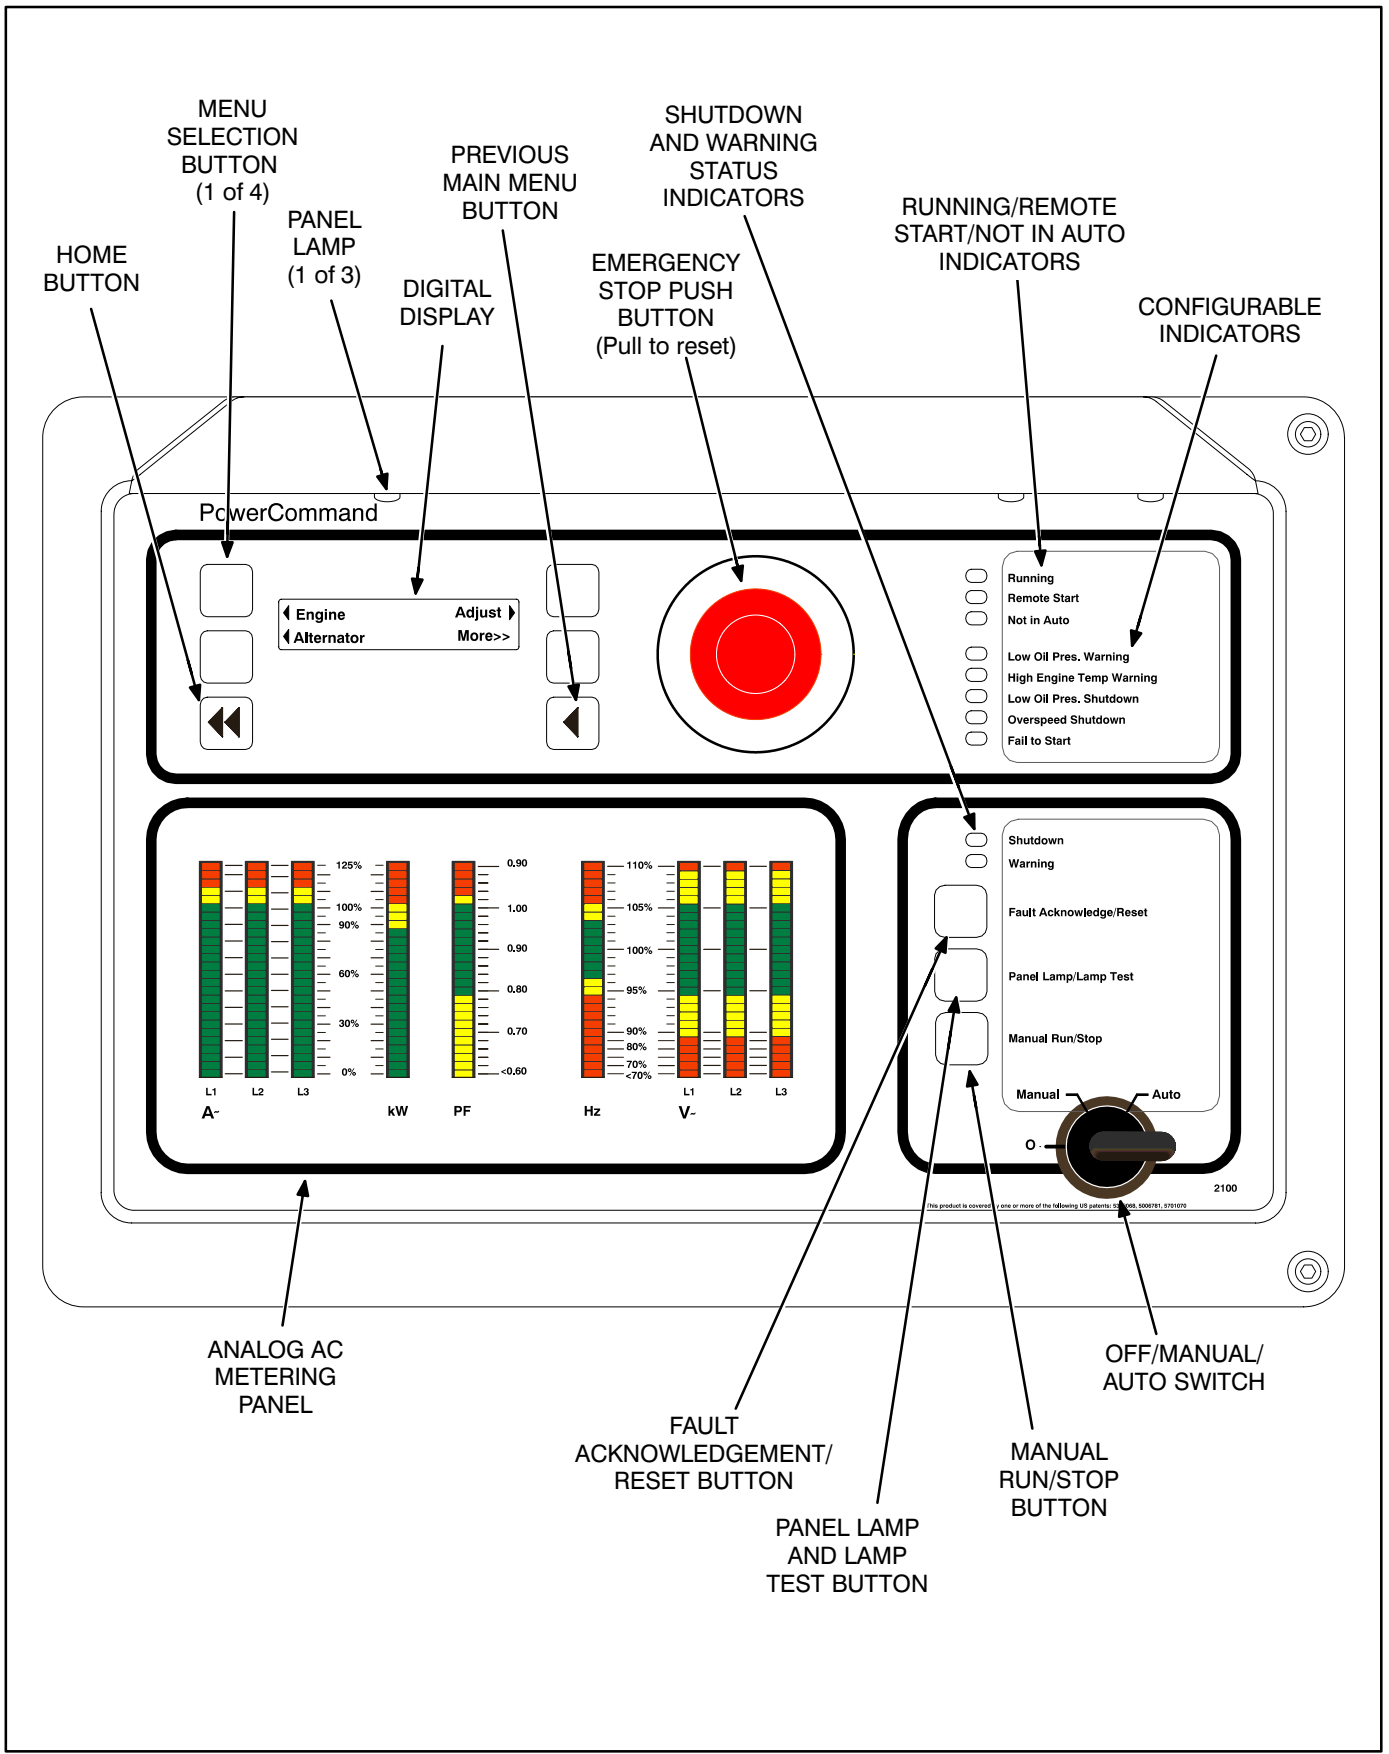

FIGURE 4-1. FRONT PANEL (FULL FEATURED)
**Running Indicator:** This green lamp is lit whenever the generator (local or remote) is running (Figure 4-1).
**Configurable Indicators:** Defaults for the configurable indicators shown in Figure 4-1 can be changed with the InPower service tool.